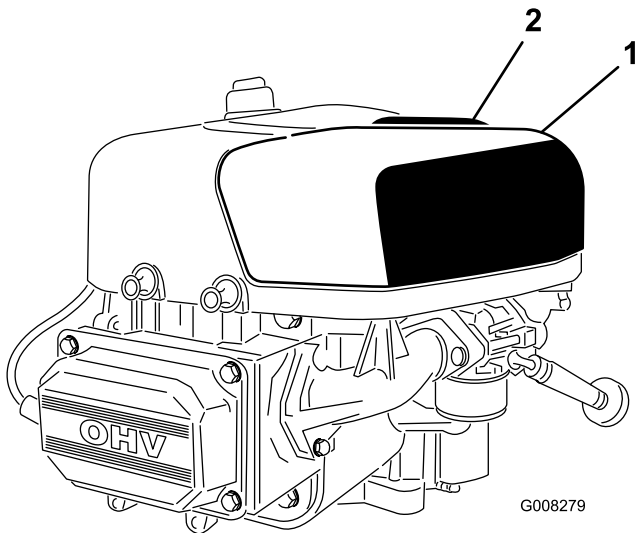

Figure 20
2. Pull up on the air cleaner cover handle and rotate it toward the engine (Figure 20).